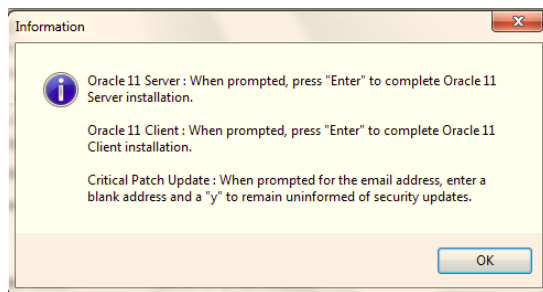

Figure 13. Oracle Information Dialog Box
9. An Information message dialog box (Figure 13) is displayed describing the actions to be taken in the following steps. Click **OK** to continue.
Perform the actions described in Figure 13.